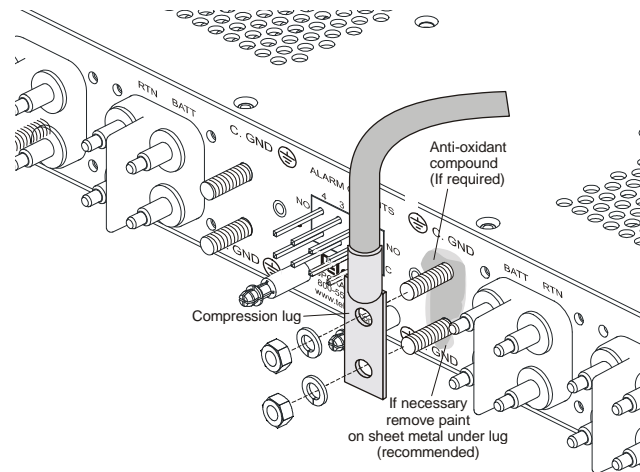

Figure 6 - Ground Lug Connection
9. Connect the lug to the terminal using the nuts and washers (supplied), as shown in Figure 6.